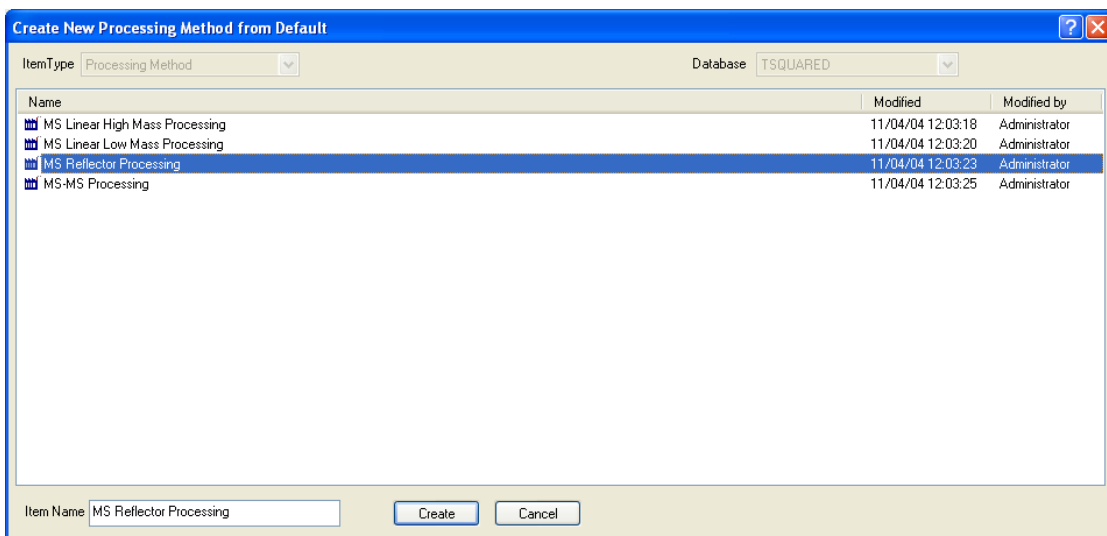

Figure 5-1 Create New Processing Method from Default Dialog Box
1. Select **File > New > Processing Method**. The Create New Processing Method from Default dialog box opens (Figure 5-1).